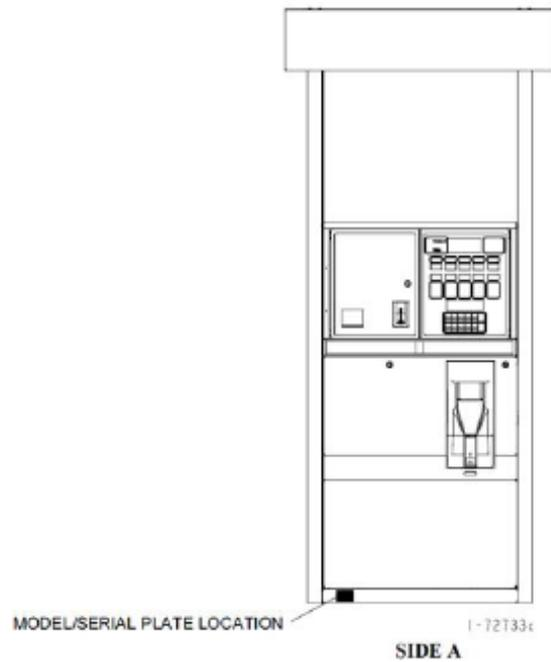

Figure 119
- c) You are looking at SIDE A. See Figure 119